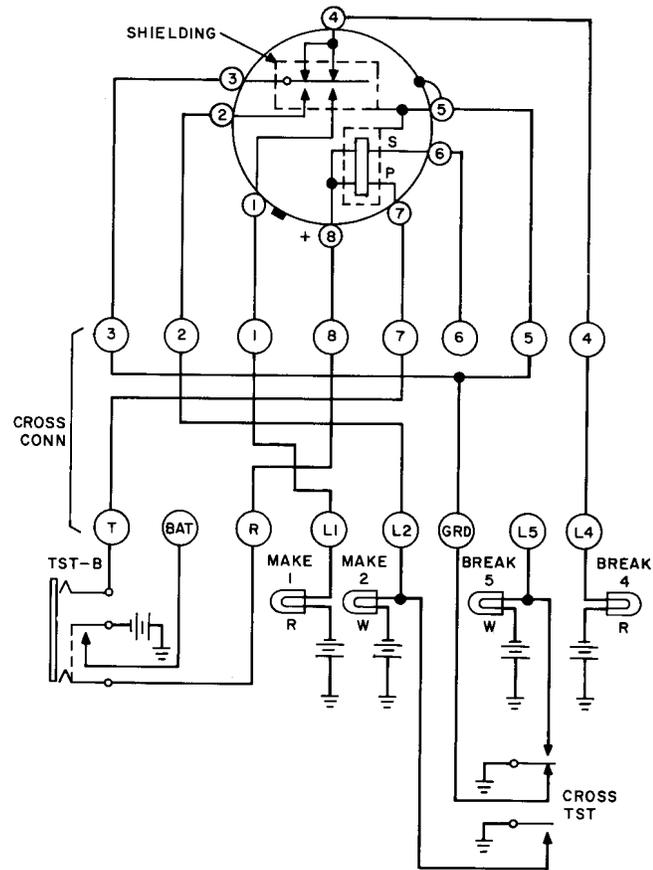

Fig. 10—Cross-Connections When Testing 275- and 276-Type Relays, Shown in Fig. 6, Using Test Set L1 and L2
4.14 Figure 10 shows cross-connections to be used when L1 and L2 test sets are used and the make contacts are brought out to separate terminals and the break contacts are connected internally in the relay and brought out to a single terminal.